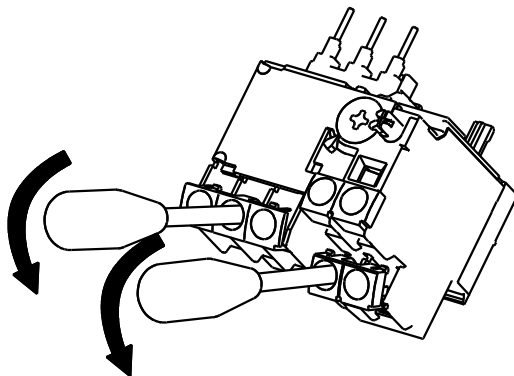

Figure 8.3 Removing the Terminal Cover
### (2) Removing the terminal cover (Figure 8.3)